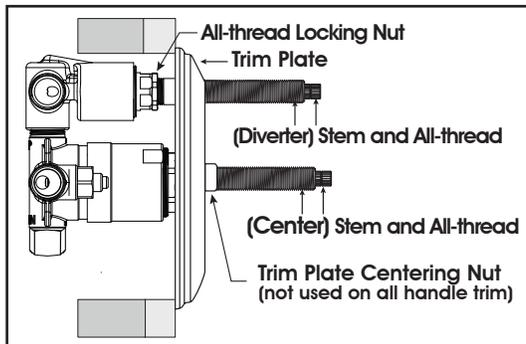

FIG. 4a
1. Install extended stem and all-thread onto cartridge stems. Fully seat stem onto cartridges by tightly securing all-thread nipples and locking nuts onto valves. Install plate and centering nut onto (center) all-thread. FIG 4a.